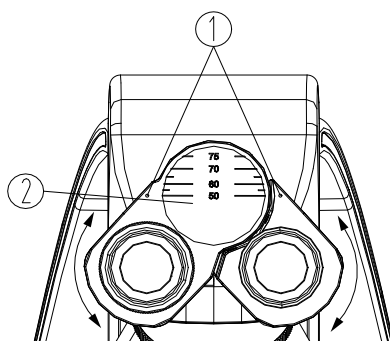

Fig.12
When using two eyes to observe, hold the bases of the prism and rotate them around the axis to adjust the interpupillary distance, until there is only one field of view. The dot “.” ① on the eyepiece base points to the scale ② of the interpupillary distance indicator. The scale value is the interpupillary distance (See Fig. 12). Adjustable range: 50~75mm.